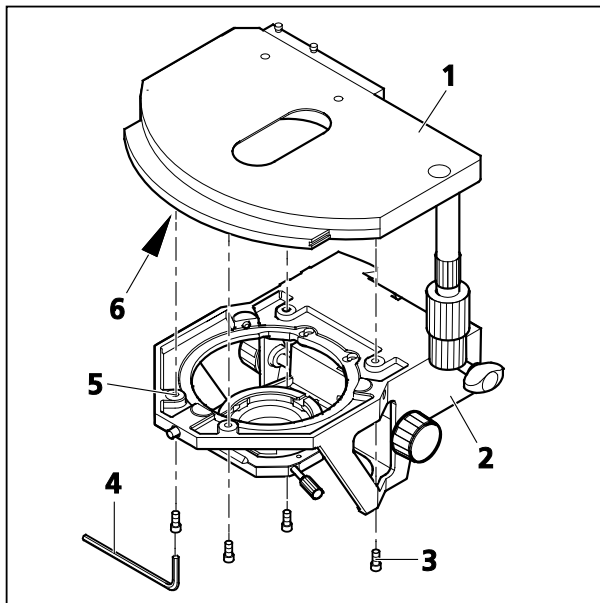

Fig. 60 Changing the fixed mechanical stage
(1) Removing the stage
- Unscrew the four fastening screws (Fig. 60/3) on stage carrier (Fig. 60/2) using the offset AF 3 Allen key (Fig. 60/4).
- Remove stage (Fig. 60/1) upwards from the stage carrier.
(2) Attaching the stage
- Place the stage (Fig. 60/1) onto the stage carrier (Fig. 60/2) so that the threaded holes on the bottom of the stage (Fig. 60/6) are positioned above the stage carrier openings (Fig. 60/5).
- Insert four fastening screws (Fig. 60/3) through the stage carrier from below and screw them into the bottom of the stage; use the shorter screws for the front.